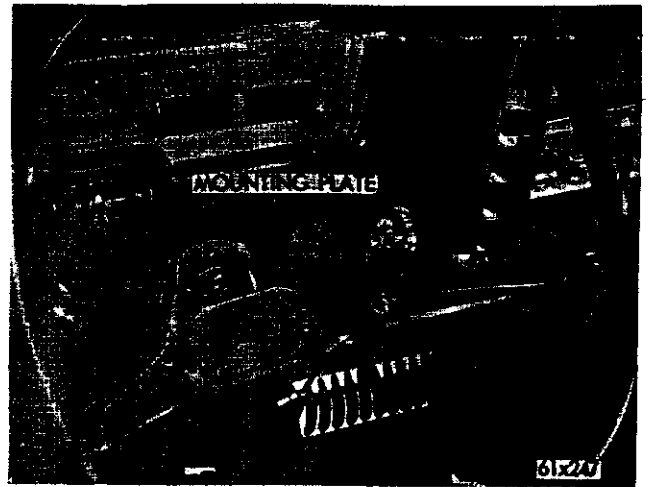

Fig. 126—Horn Blowing Ring Mounting Plate
(5) Remove the four screws and remove the horn blowing switch (Fig. 126).